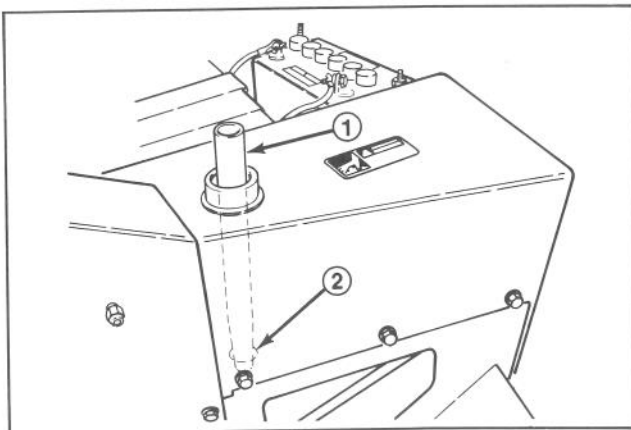

Figure 34
2. If only the filter is to be changed, remove reservoir cap and insert reservoir plug (Fig. 34), to block